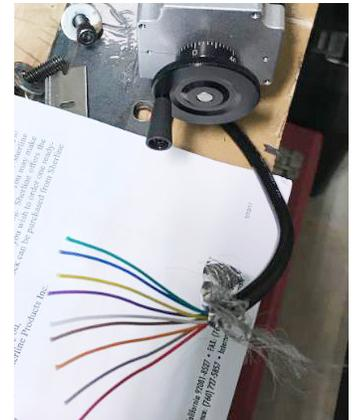

FIGURE 3
If you cut the 5 pin din connector off of our (23Y-240D-LW5-01) High-Torque Stepper Motor, you will find that there are nine wires (9) in the cable (see Figure 3).